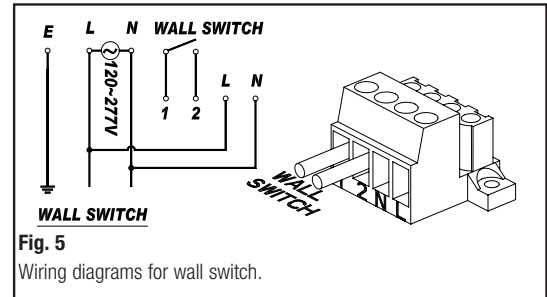

Fig. 5
3. For an external switch: remove the jumper between terminals 1 and 2, connect the switch device between terminals 1 and 2, and slide the slide switch to the Wall Switch position (see Fig. 5 for wiring connections). The external switch connections must be fully isolated from any other circuitry.